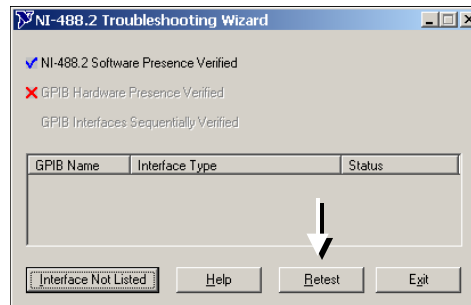

Figure 9B. Troubleshooting Wizard and retest
- b. If the error message *did* appear, click on the **Retest** button in the **NI Troubleshooting Wizard** (Figure 9B) to clear the wizard so that you can proceed with the verification process. (You might need to click on the **OK** button in the error message (Figure 7C) before you can perform the retest.)